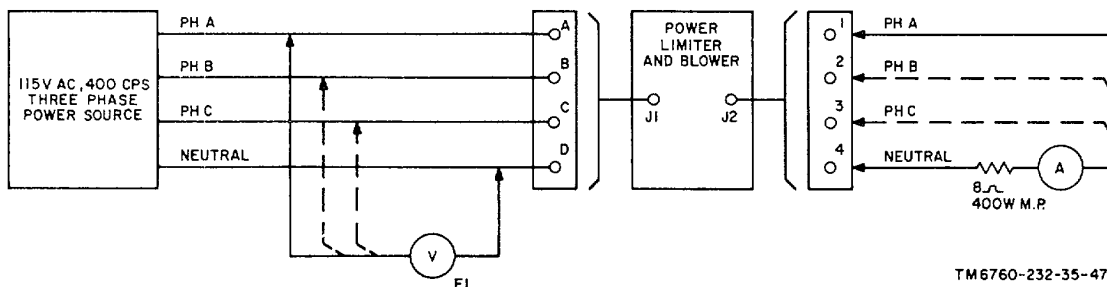

Figure 2-2. Power limiter and blower, test setup.
- (1) Ammeter, 0 to 10 ampere, Simpson Model 270. The ammeter is required to make current measurements.
- (2) Multimeter Simpson Model 260. The multimeter is required to make current measurements.
- (3) Resistor, 8-ohm, 5-percent, 400 watt.
- (4) Test cables as shown in figure 2-2.
- (1) Set POWER circuit breaker to OFF.
- (2) Set BLOWER circuit breaker to OFF.
- (3) Connect the power limiter and blower as shown in figure 2-2.